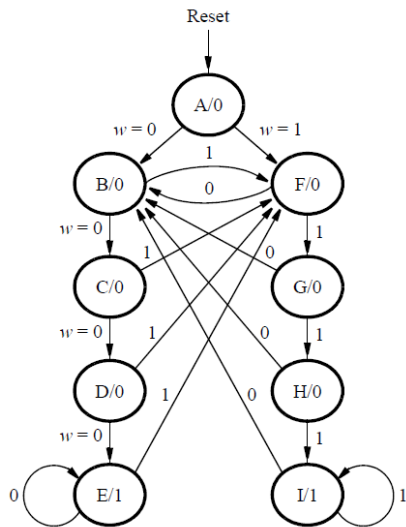

Figure 3: A state diagram for the FSM.
A state diagram for this FSM is shown in Figure 3. For this part you will manually derive an FSM circuit that implements this state diagram, including the logic expressions that feed each of the state flip-flops. To implement the FSM use nine state flip-flops called y_8, \dots, y_0 and the one-hot state assignment given in Table 1.
For this part you are to write another style of HDL code for the FSM in Figure 3. In this version of the code you should not manually derive the logic expressions needed for each state flip-flop. Instead, describe the state table for the FSM by using a VHDL CASE statement in a PROCESS block, and use another PROCESS block to instantiate the state flip-flops. You can use a third PROCESS block or simple assignment statements to specify the output z . To implement the FSM, use four state flip-flops y_3, \dots, y_0 and binary codes, as shown in Table 3.
4. Compile your project and **optionally** add SignalTap functionality. To examine the circuit produced by Quartus open the RTL Viewer tool. Double-click on the box shown in the circuit that represents the finite state machine and determine whether the state diagram that it shows properly corresponds to the one in Figure 3. To see the state codes used for your FSM, open the Compilation Report, select the Analysis and Synthesis section of the report, and click on State Machines.